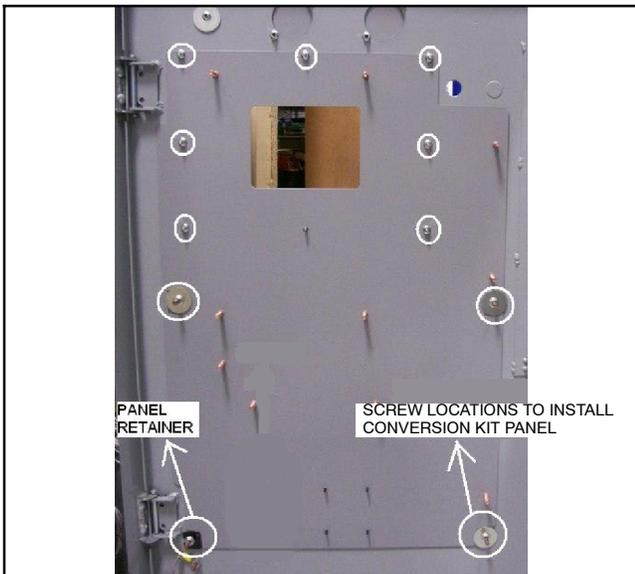

Figure 13 Mounting Plate Installation
- Install the conversion kit mounting plate (GM60611). Use seven lock washers (X-22-7) and seven nuts (X-6210-4) to install the mounting plate as shown in Figure 13 and Figure 16. Install three flat washers (X-25-122) with three nuts (X-6210-2) as shown.
- Install panel retainer (GM70051). See Figure 13.